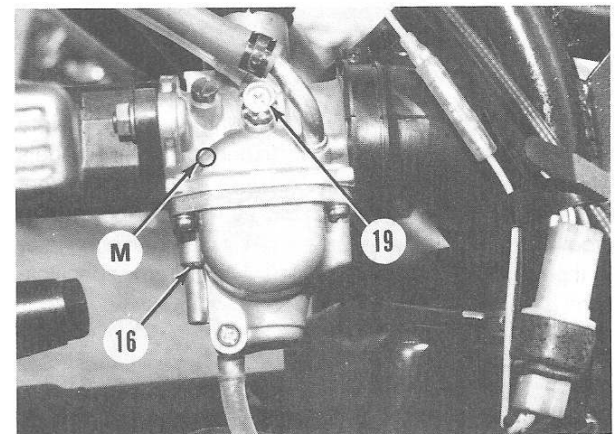

Fig. Y6-6—View showing location of idle speed screw (19). The idle mixture screw is located at (16) or at (M).
Refer to Fig Y6-6 for location of idle mixture screw (16). On 200 cc models with chain drive the idle mixture screw is located at (M). Initial setting of idle mixture screw is 1¾-2½ turns out from a lightly seated position on 200 cc models. Initial setting of idle mixture screw is 1-2 turns out on 225 cc models. Final adjustment should be performed with engine running at normal operating temperature.
Adjust the idle speed screw (19—Fig. Y6-6) so engine idles at 1350-1450 rpm. After adjusting carburetor, check throttle lever free play.
Fig Y6-7—Exploded view of typical Mikuni carburetor used on YTM200 and YTM225 models. Inlet valve retainer (21A) is used on models with an unthreaded inlet valve (21). Idle mixture screw (16) is located in side of body on 200 cc chain drive models (see Fig. Y6-6).